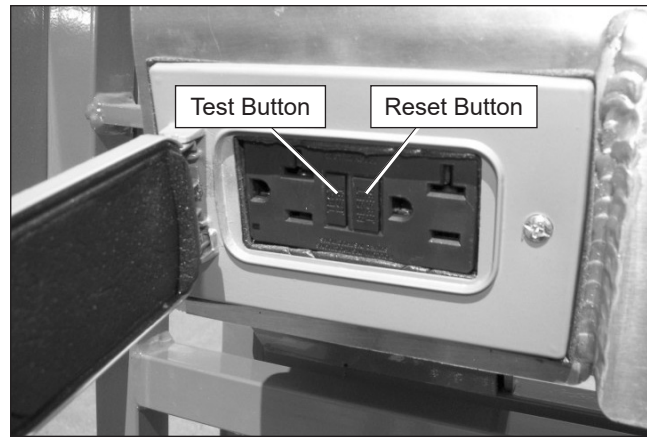

Figure 8.22 – Electrical Power Outlet
1. Push the test button (refer to Figure 8.22).